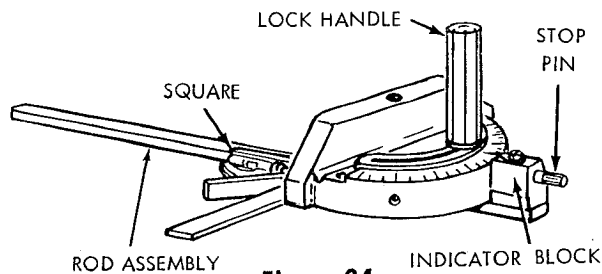

Figure 34
(1) Loosen the lock handle and push the stop pin firmly into the middle detent ("0" position on the scale.) The stop pin will be seated more effectively if it is rotated slightly as it is being "pushed" into the detent. Tighten the lock handle. (See figure 34.)
(2) Using a combination square, check for an exact 90-degree angle between the miter gauge and rod assembly. If this measurement is exactly 90 degrees, the adjustment has not been disturbed and the gauge is ready for use. If not accurate at 90°, adjust the gauge as follows: